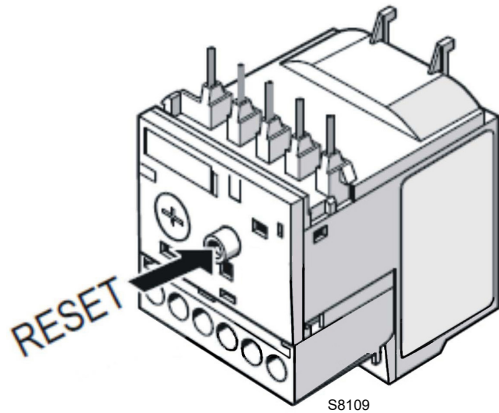

Fig. 26
- To reset, in the case of an intervention of the thermal relay, press the button “RESET” (Fig. 26).